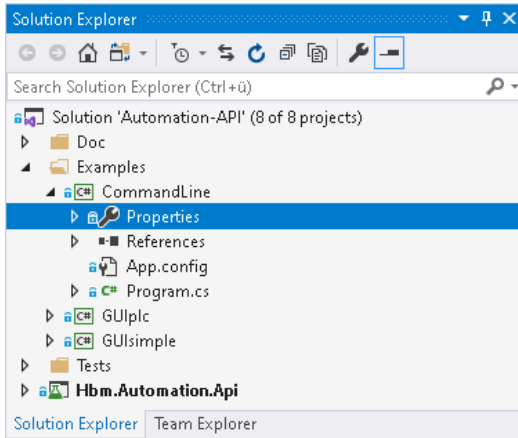

Fig. 6.1 *Selecting properties*
- ▶ Right-click on **CommandLine** in the **Examples** folder in the **Solution Explorer** and select **Properties**, or double-click **Properties** (*Fig. 6.1*) directly.